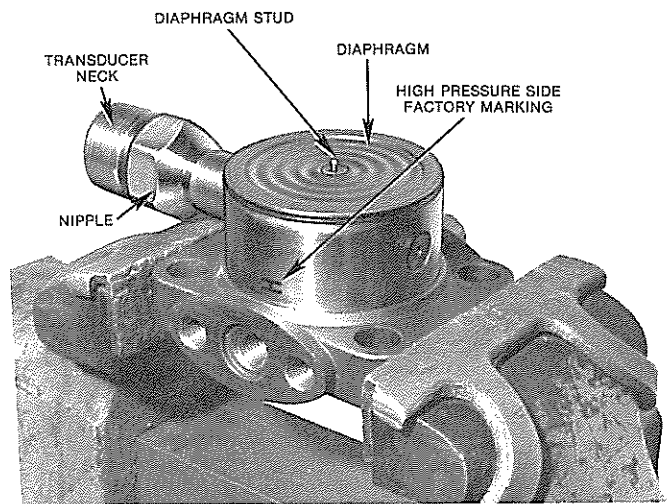

FIGURE 30 – Transducer Resting on Flange (with Top Flange Removed) A8467
12. Observe and note the location of the “H” marking on the transducer (see Figure 30). During reassembly, the “H” marking must be on the same side of the neck of the transducer.
19. Align the transducer neck between the two flange bolt holes as shown in Figure 30.